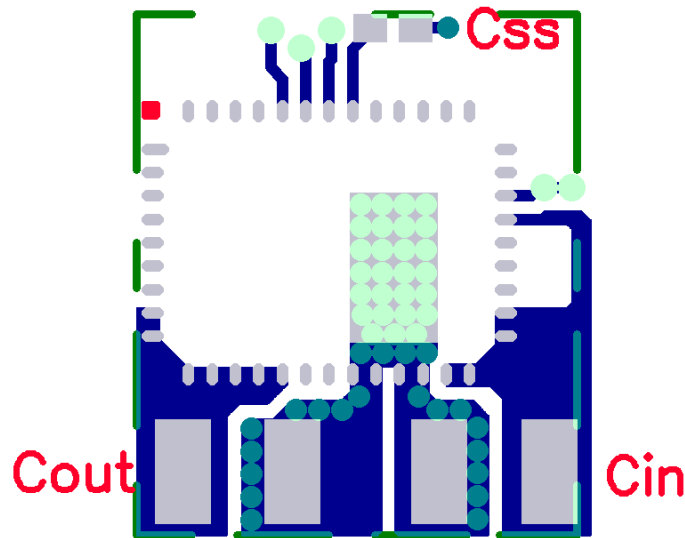

Figure 4: Optimized Layout Recommendations
Figure 4 shows critical components and layer 1 traces of a recommended minimum footprint EN5336QI layout. Alternate ENABLE configurations and other small signal pins need to be connected and routed according to specific customer application. Please see the Gerber files on the Intel website [www.intel.com/enpirion](http://www.intel.com/enpirion) for exact dimensions and other layers. Please refer to Figure 4 while reading the layout recommendations in this section.
**Recommendation 2:** Two PGND pins are dedicated to the input circuit, and two to the output circuit. The slit in Figure 4 separating the input and output GND circuits helps minimize noise coupling between the converter input and output switching loops.
**Recommendation 5:** Multiple small vias (the same size as the thermal via discussed in recommendation 4) should be used to connect ground terminal of the input capacitor and output capacitors to the system ground plane. It is preferred to put these vias under the capacitors along the edge of the GND copper closest to the +V copper. Please see Figure 4. These vias connect the input/output filter capacitors to the GND plane, and help reduce parasitic inductances in the input and output current loops. If the vias cannot be placed under CIN and COUT, then put them just outside the capacitors along the GND slit separating the two components. Do not use thermal reliefs or spokes to connect these vias to the ground plane.
**Recommendation 6:** AVIN is the power supply for the internal small-signal control circuits. It should be connected to the input voltage at a quiet point. In Figure 4 this connection is made at the input capacitor close to the  $V_{IN}$  connection.
**Recommendation 7:** The layer 1 metal under the device must not be more than shown in Figure 4. See the section regarding exposed metal on bottom of package. As with any switch-mode DC-DC converter, try not to run sensitive signal or control lines underneath the converter package on other layers.